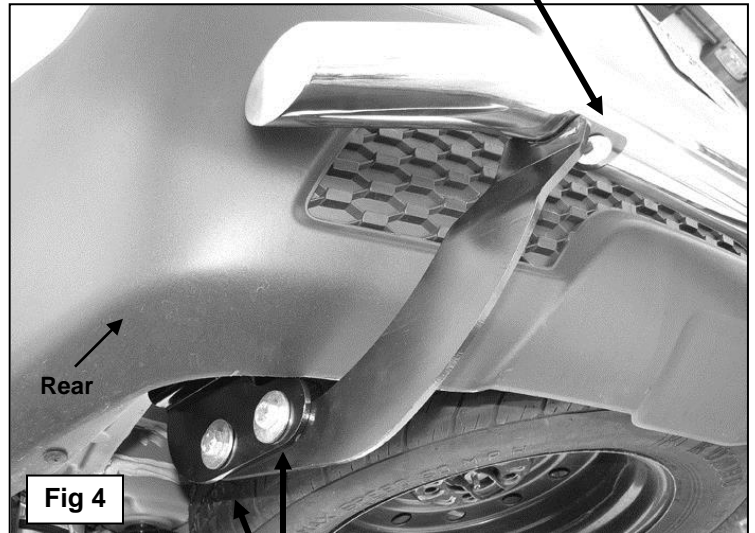

Fig 4
8. Attach the driver side Rear Mounting Bracket to the inside of the Frame Bracket with (2) 12mm x 35mm Hex Bolts, (4) 12mm Flat Washers, (2) 12mm Lock Washers and (2) 12mm Hex Nuts, **(Figure 4)**. Snug but do not tighten hardware at this time.
10. Carefully position the Rear Bumper Guard onto the previously installed Mounting Brackets and attach it using the included (4) 8mm x 25mm Hex Bolts, (4) 8mm Lock Washers and (4) 8mm Flat Washers, **(Figure 4)**. Snug but do not tighten hardware at this time.